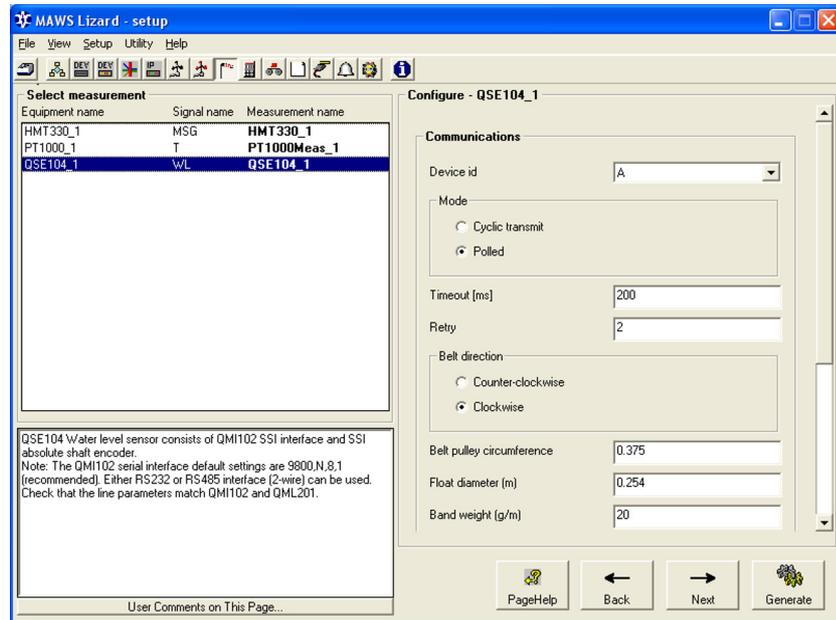

Figure 39 Measurements View: Communications for Absolute Shaft Encoder
3. Go to the **Measurements** view. All the parameters are predefined. If there is more than one device on the same RS-485 line, the device IDs must be different. See Figure 39 on page 82.
If you have more than one absolute shaft encoder in your system setup, you must define the device number when entering the **waterlevel** command. To see which command is associated with a certain device, click the **waterlevel commands** button in the **Communications** frame of the **Measurements** view in Lizard, as seen in Figure 39 on page 82. A window opens, displaying the QSE devices and the commands associated with them, see Figure 40 on page 83.